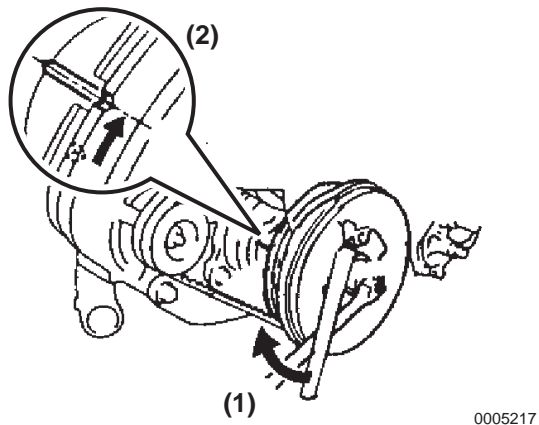

Figure 5-218
2. Turn **(Figure 5-218, (1))** the crankshaft pulley clockwise to align its groove to that of the timing gear cover **(Figure 5-218, (2))** and set No. 1 cylinder at TDC of the compression stroke.
3. Check that the intake and exhaust valve rocker arm does not move when the crankshaft pulley is turned in the both directions (about 90°). If not, turn the crankshaft 360° and position the mark as shown **(Figure 5-218, (2))**.
5. Turn the crankshaft pulley 360° and locate the mark as shown in **(Figure 5-218, (2))**.